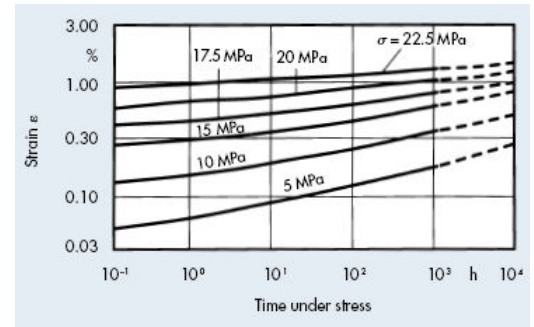

Figure 4: Strain vs. Time for 1140L4 PPS
Figure 4 (ref 3) plots the tensile strain vs. time for a 40% glass fiber filled PPS at a temperature of 150°C. The static tensile strength for this material at 150°C is 65 MPa. The strain rate for the 10 MPa (15% of ultimate) curve is 0.000142 %/hr. **This is a creep rate improvement of 287% over the CF/PEEK material.** Since the “fiber volume” (not fiber weight) of CF/PEEK and the glass filled PPS are almost the same, this says that PPS is better at resisting creep than PEEK.